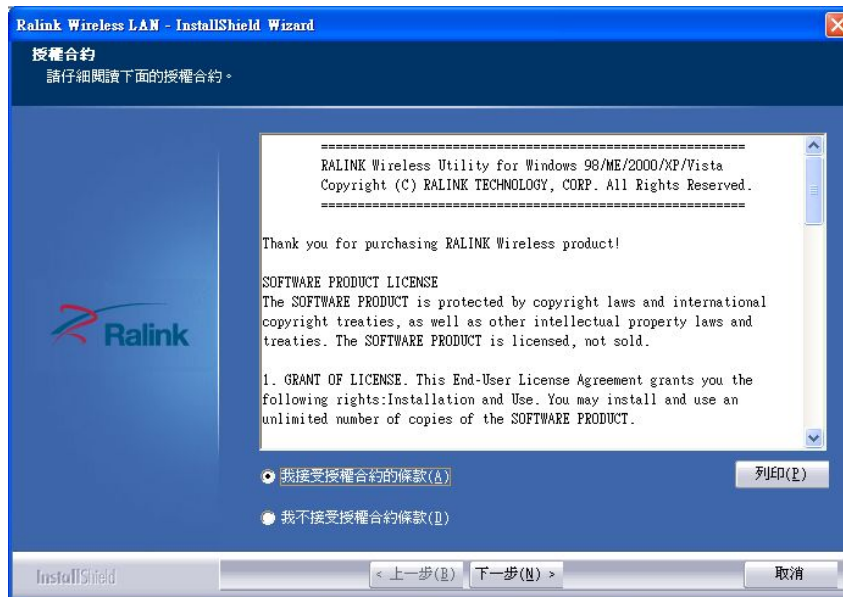

Figure 7-31: Wireless Driver License Agreement
Step 3: The license agreement in Figure 7-31 appears.